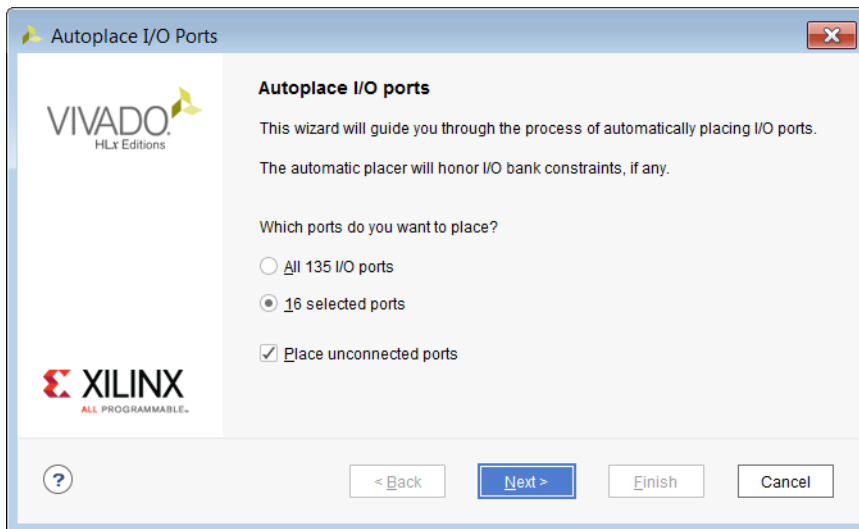

Figure 3-19: Autoplace I/O Ports Wizard
3. In the Autoplace I/O Ports wizard (Figure 3-19), select the group of I/O ports to place, and click **Next**.